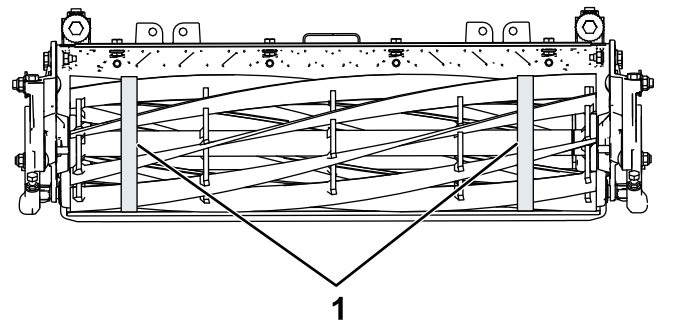

Figure 36
3. Using diameter measuring tape, measure the outside diameter of the reel at both ends (Figure 36); the difference in outside diameter between the ends should be less than 0.010 inches (0.254 mm). If the difference is greater, grind to correct the difference.